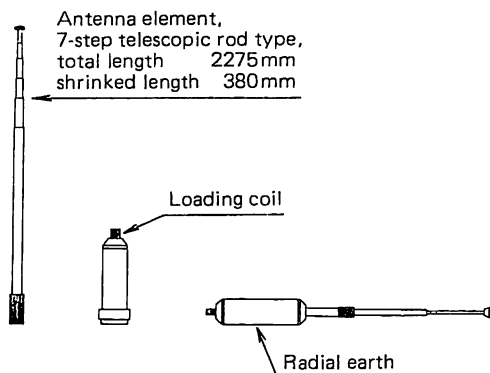
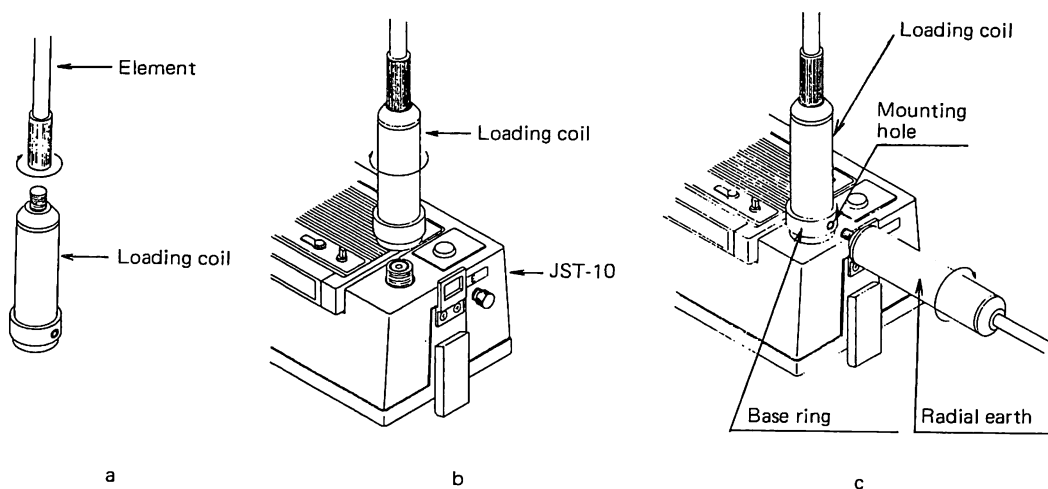

Figure 1.4.1 Whip Antenna Structure
Figure 1.4.2 Assembling the Whip Antenna
The NAW-210W is composed of three components, as shown in Figure 1.4.1. They are assembled in such manner as shown in the next page (Figure 1.4.2).
- (1) Screw the antenna element into the loading coil tube, until tight, as shown in Figure 1.4.2. a.
- (2) Screw the loading coil tube into the antenna connector of the transceiver, until tight, as shown in Figure 1.4.2. b.
- (3) Rotate the base ring, until coming to the mounting hole, as shown in Figure 1.4.2. c. Screw the radial earth\*1) tightly until the ring can be no more rotated.
- (4) The antenna element is of a seven-step telescopic rod type. When using, fully expand the element, starting from the top rod piece until its total length\*2).